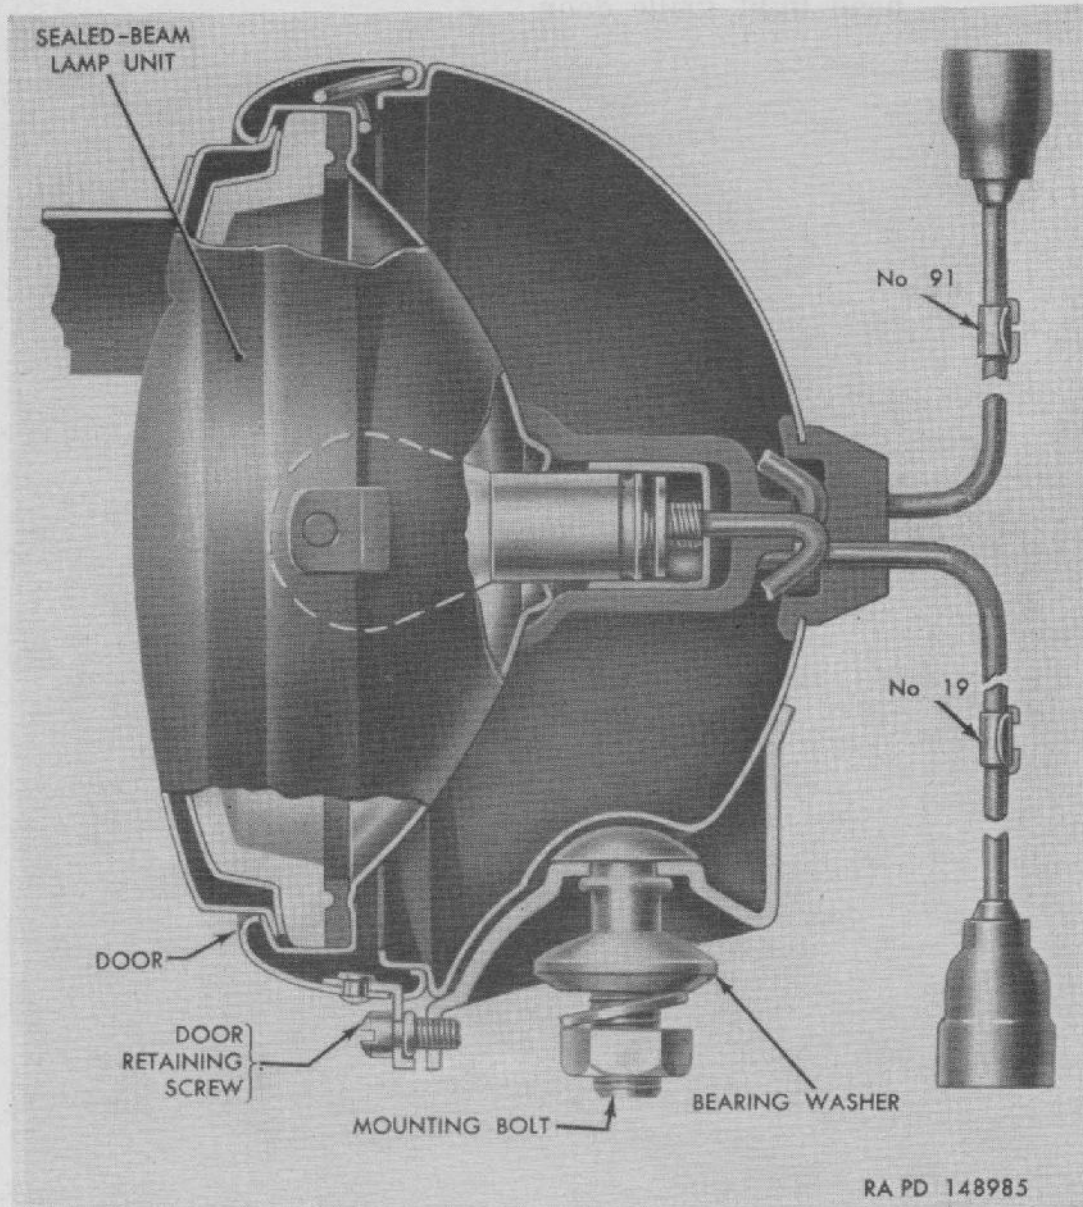

Figure 87. Sectional view of blackout driving light.
- (1) *Removal* (fig. 87). Unscrew three screws attaching door to light body and remove door. Pull sealed-beam
- (2) *Installation* (fig. 87). Connect cables on new sealed-beam unit to cables in body, making sure numbers on cables are matched. Engage connectors in clips in body. Position sealed-beam unit in body, install door, and attach with three screws.